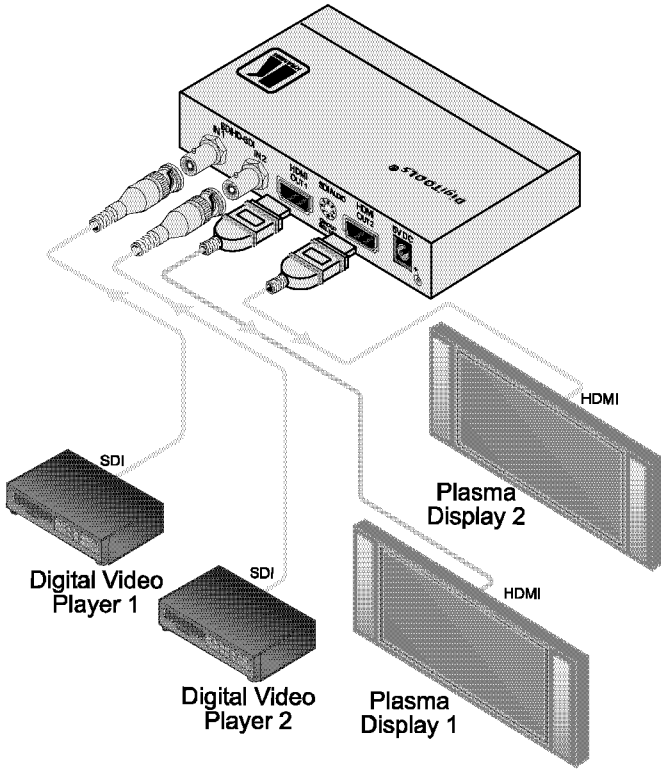

Figure 2: Connecting the FC-322 SD/HD-SDI to HDMI Converter/Switcher/DA
To connect the **FC-322**, as the example in *Figure 2* illustrates, do the following¹:
6. Connect the 5V DC power adapter to the power socket and connect the adapter to the mains electricity (not illustrated in *Figure 2*).